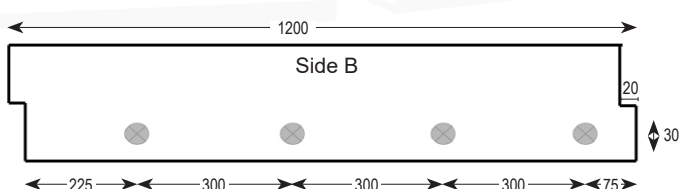

Fig. 2
4. Attach the anchoring springs to the lower part of the VEDAFEU FB[®] filler boards on Side B according to the fig. 2.